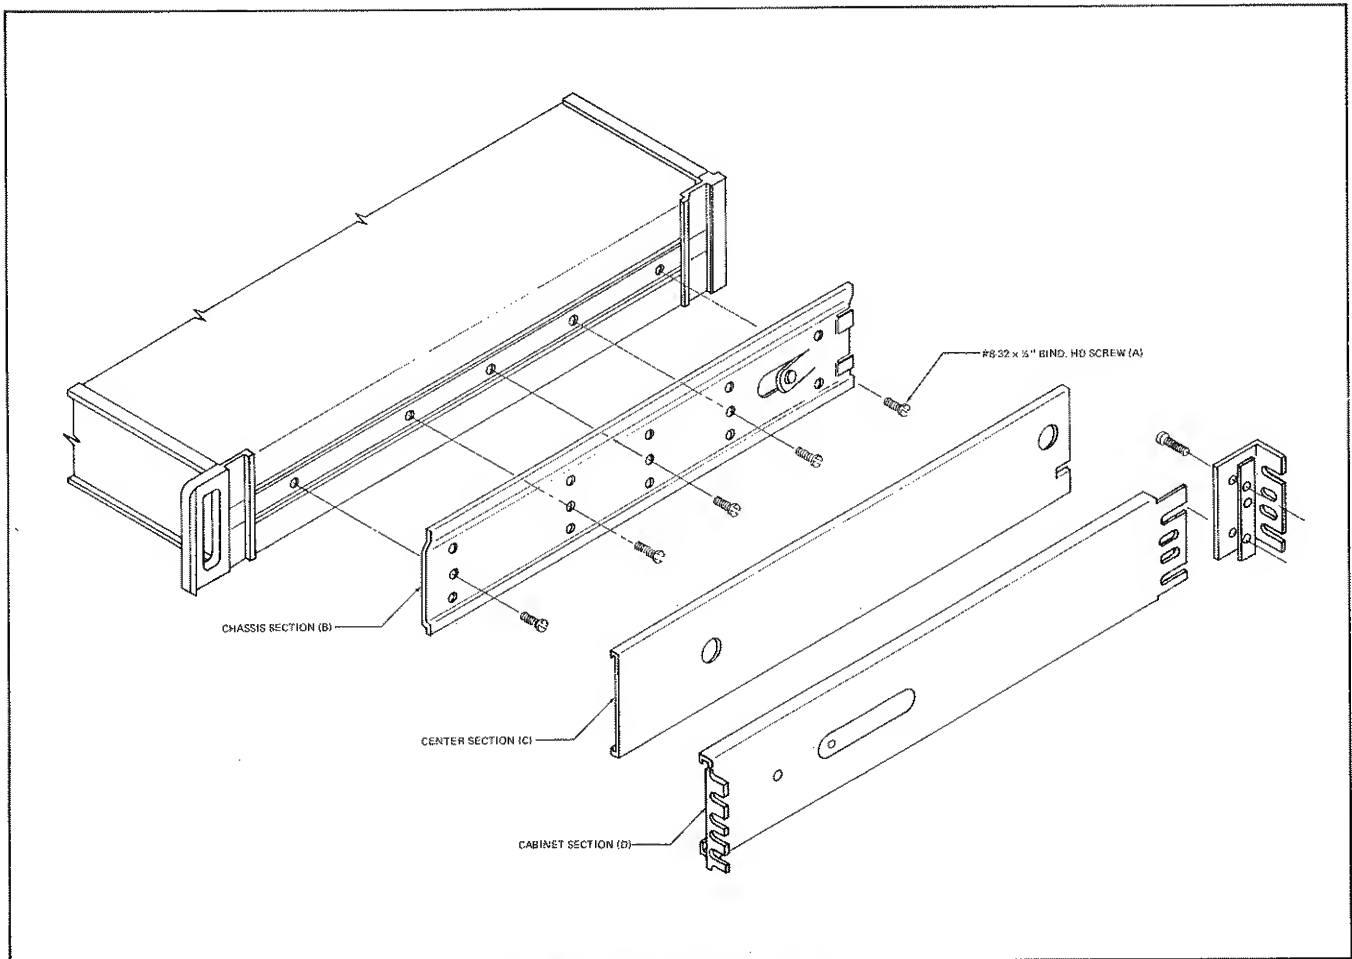

Figure 600-2. Rack Slide Kit
2. Refer to Figure 600-2, and, using the screws supplied with the kit, attach the Chassis Section (B) of the slide kit to each side of the unit. Use the center row of mounting holes.
3. Install the cabinet Section (D) and the Center Section (C) in the equipment rack.
5. Depress the spring locks on the Chassis Section (B) and join Section B and C.